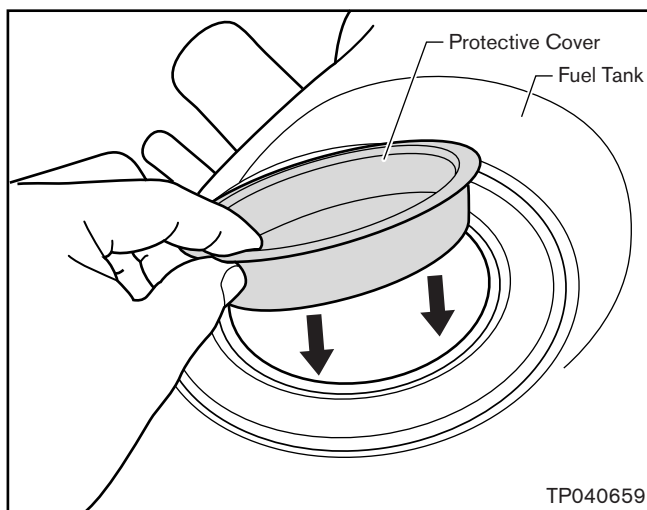

Figure 19
- The O-Ring groove has NO or light rust (no scaling) and can be cleaned with a light abrasive pad (such as Scotch Brite Pad 3M #051131-07447) or a copper/bronze bristle brush. See Figures 19 & 20.
8. Insert the Protective Cover provided in Kit A (3-port) or Kit B (5-port) in the Fuel Tank opening (see Figure 19).